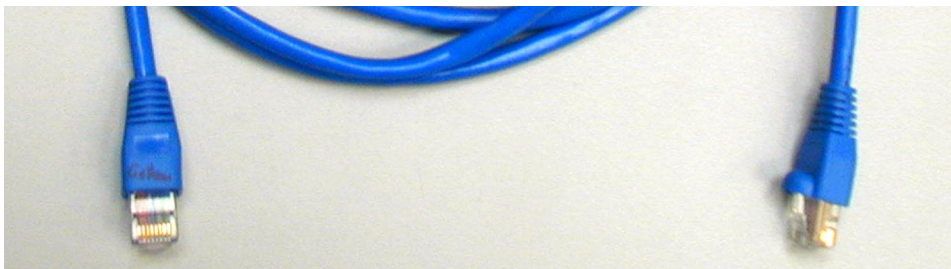

Figure 3-9: Ethernet Cable
**Ethernet:** Standard Ethernet cable for connecting the instrument to an Ethernet network, see Figure 3-9.